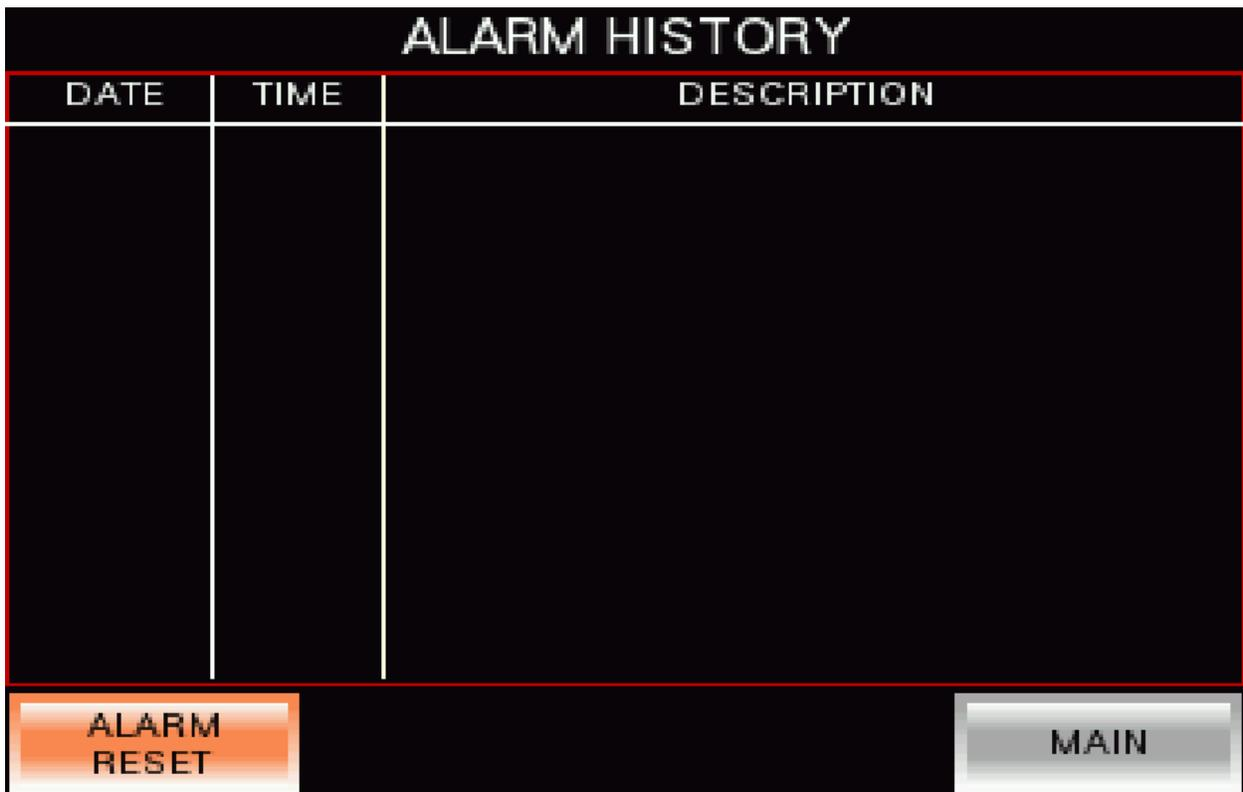

Figure 6.0
1. The user can access this screen using the ALARM HISTORY button from the MAIN screen. Once pressed you will be taken to the ALARM HISTORY screen like figure 6.0 below.
3. If an alarm is still active it will be displayed in red text. The ALARM RESET button like in figure 6.0 below will be available to allow the user to reset the alarm.